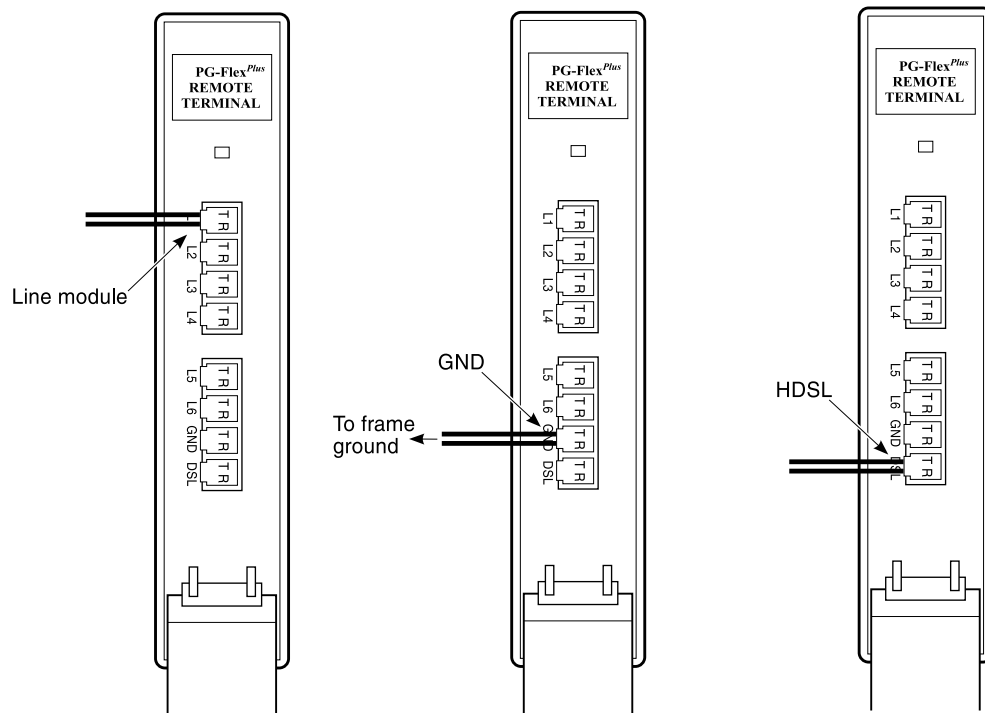

Figure 9. Attaching the FGND, HDSL and Subscriber Line wires
- 4 Press the IDC connector downward to secure the FGND and Subscriber Line wires (see Figure 9).